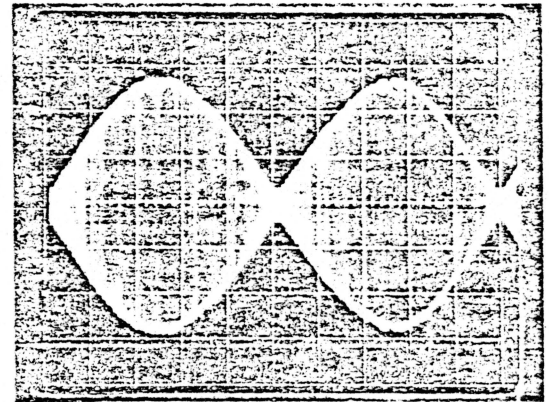

FIGURE 11. HEAD RADIAL ALIGNMENT
- The two lobes must be within 70% amplitude of each other. If the lobes do not fall within the specification, continue on with the procedure. Reference figure 11.